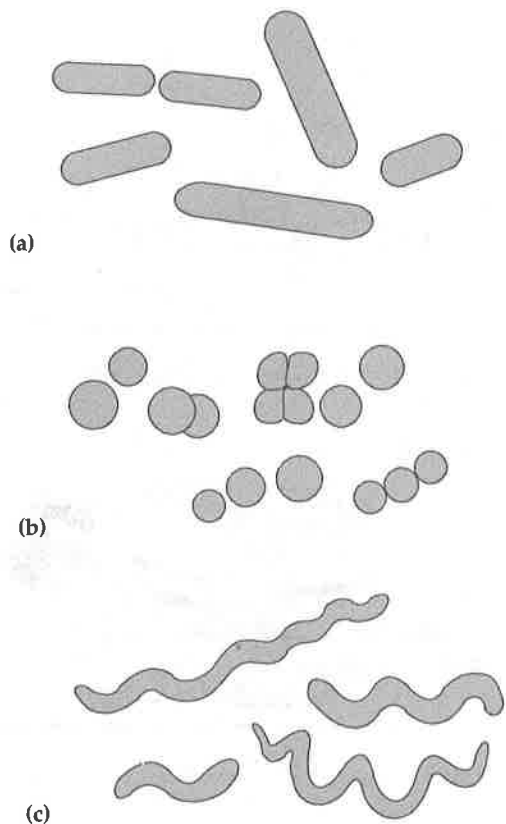

Figure 6
9. When your observations are completed, move the turret to bring a low-power objective into position. Do not rotate the high-dry (40 \times) objective through the immersion oil. Clean the oil off the objective lens with lens paper, and clean off the slide with tissue paper or a paper towel. Remove the slide. Repeat this procedure with all the available slides. When observing the bacteria, note the three different morphologies, or shapes, shown in Figure 6.